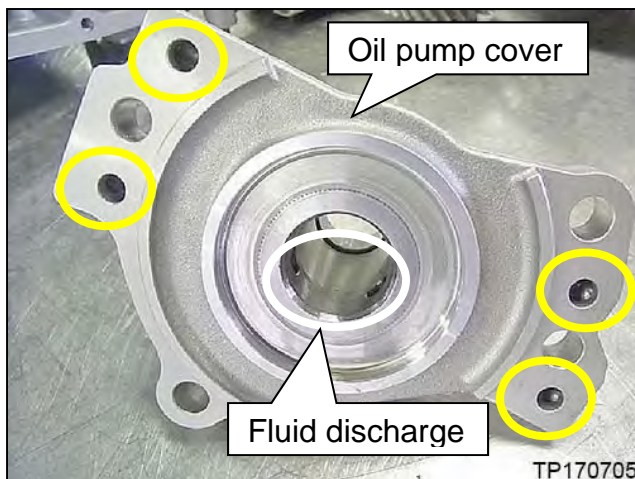
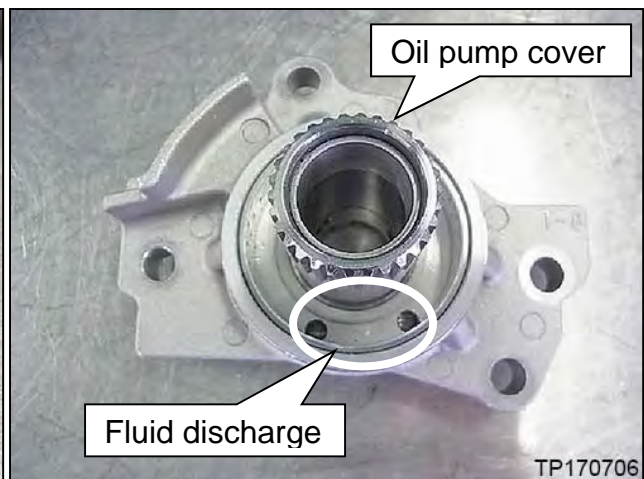

Figure 121
Figure 122
- d. Spray brake cleaner into the oil pump cover oil passages indicated in yellow shown in Figure 121.
To avoid the risk of minor personal injury, do not face the passage indicated in white in Figure 121 and Figure 122 while cleaning.